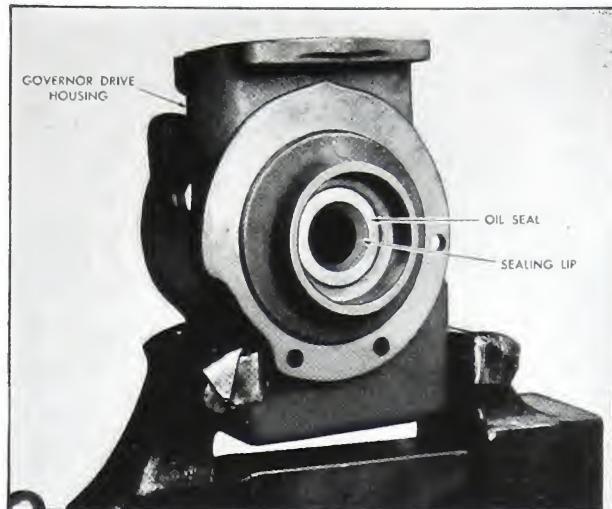

Fig. 5-155. Oil seal in governor drive housing
10. Replace the oil seal in the drive housing of compressor type or hydraulic governor type pumps. Drive out the old seal from the inside. Use a mandrel and press in the new seal, with the sealing lip toward the inside of the housing, $1/32''$ below the face of the shoulder. Fig. 5-155.